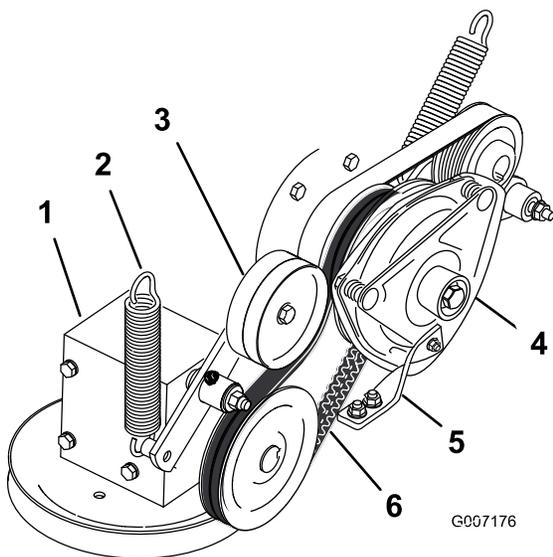

Figure 93
4. Remove the spring from the idler arm (Figure 93).
7. Install the PTO-drive belt around the clutch pulley and the gearbox pulley (Figure 93).
9. Install the spring to the idler arm (Figure 93).